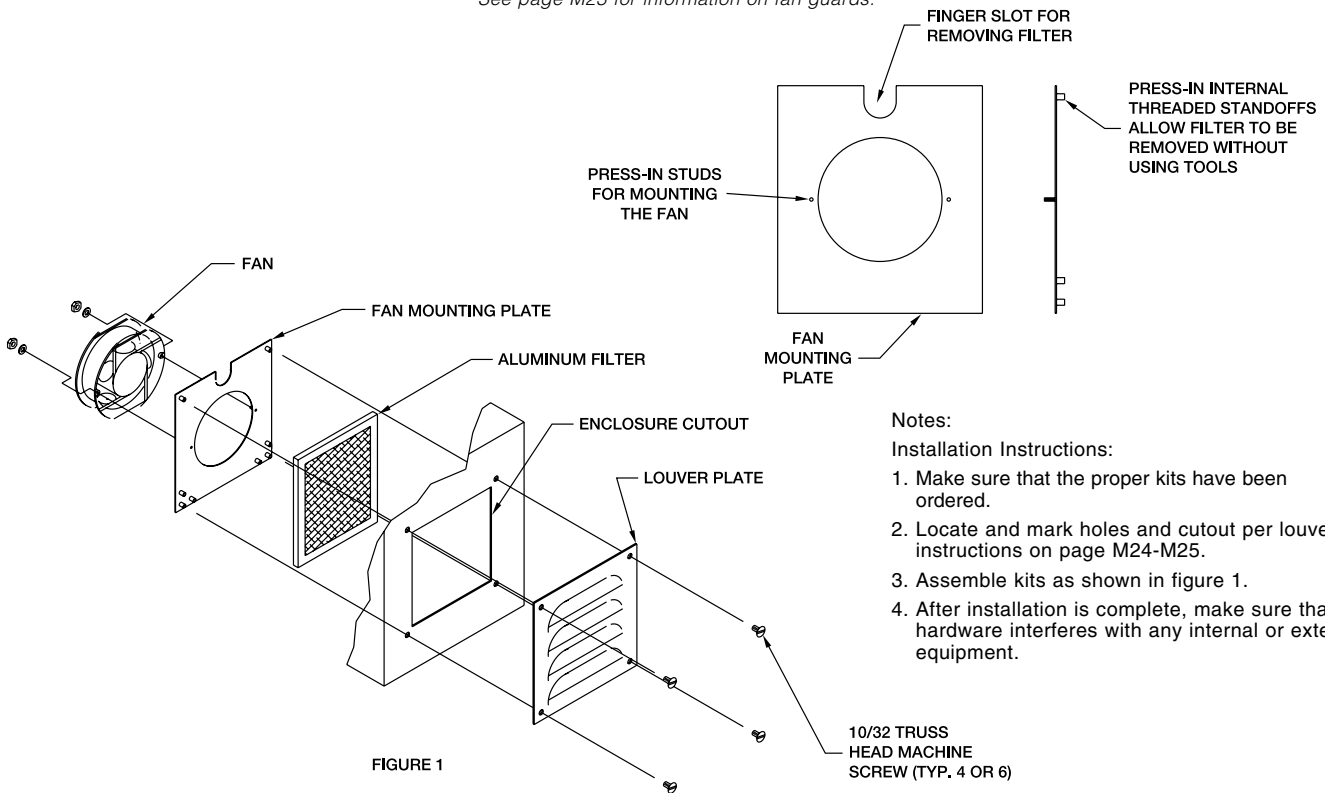

FIGURE 1
3. Assemble kits as shown in figure 1.